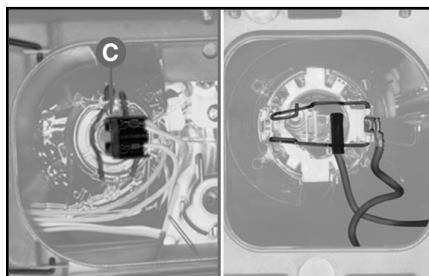

fig. 14
- 3) Pull side tabs of the fixing clips **C**-fig. 14; remove the bulb holder and the relevant bulb.